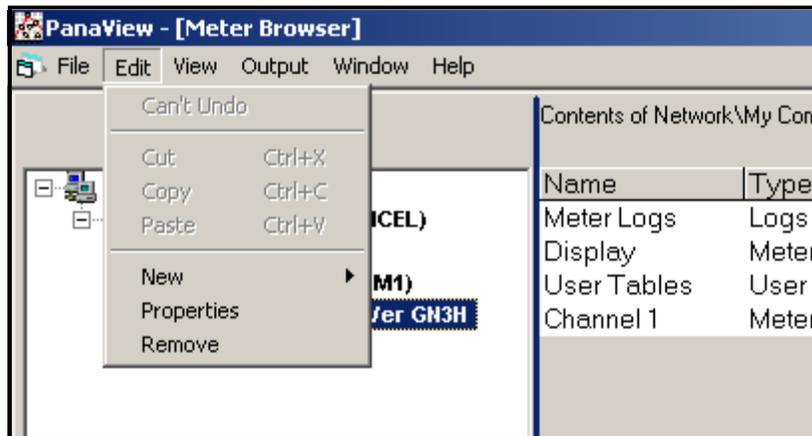

Figure 24: The *Properties* Option in the *Edit* Menu
2. Open the "Edit" menu and select the "Properties" option, as shown in Figure 24 below.